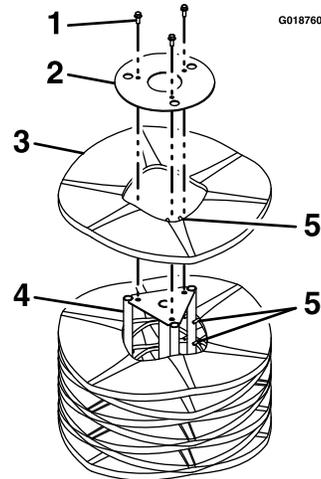

Figure 35
- 5. Stand the broom core assembly on end so that the removable end retainer plate faces upward (Figure 35).
- 6. Remove and retain the hardware from the end-retainer plate (Figure 35).
- 8. Install the new segment(s) by staggering the metal ring alignment fingers as shown in Figure 35.